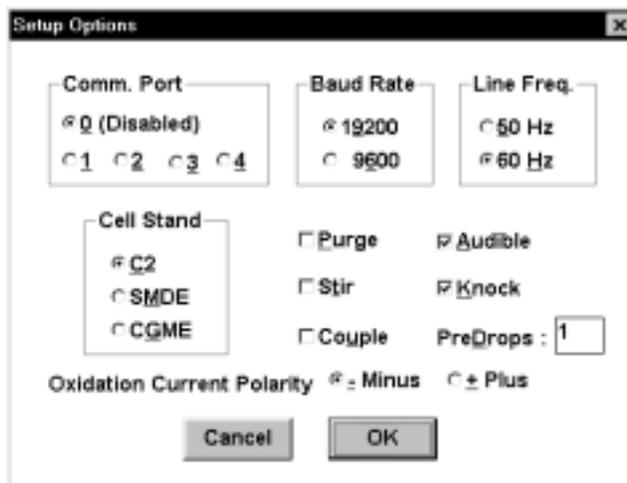

Figure 2-6. Setup dialog box.
5. The CV-50W software is opened by double-clicking the CV-50W icon. Before any operation, it is advisable to check that the communication parameters are correct. These are contained in the **Setup** dialog box in the **File** menu (Figure 2-6).